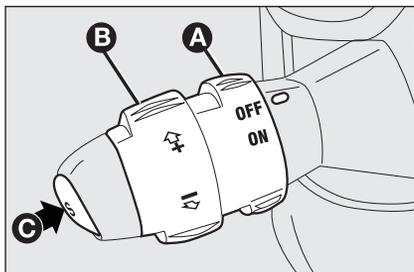

fig. 54
Turn knurled ring **A**-fig. 54 to **ON**.
- turn the knurled ring **A**-fig. 54 to **ON** and press the accelerator pedal to the required speed;
- press button **C-fig. 54**.
- turning the knurled ring **B-fig. 54** temporarily to (+).
- keeping the knurled ring **B-fig. 54** to (-) until reaching the new speed which will be memorised automatically.
Turn the knurled ring **A-fig. 54** to **OFF** or the ignition key to **STOP**. The device is automatically deactivated also in one of the following cases:
In the event of device malfunction or failure, turn the knurled ring A-fig. 54 to OFF and contact a Fiat Dealership after checking the protection fuse integrity.